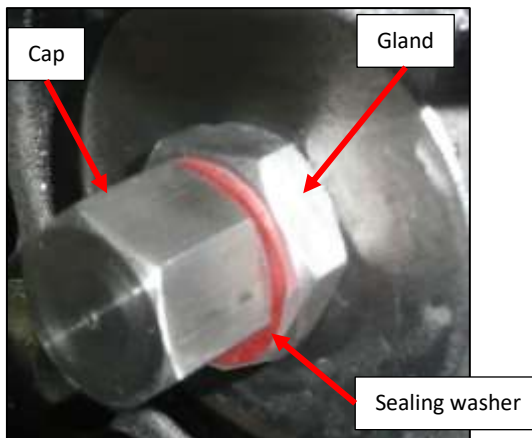

Fig 2: Pad wear indicator cap, sealing washer and gland.
18. Ensure gland is threaded fully into the spring cover (see Fig 2).